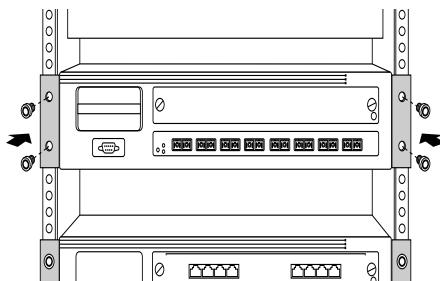

Figure 5: Rackmounting the Switch
3. Align the holes in the mounting brackets to the holes in the rack (Figure 5) and secure with the screws provided.